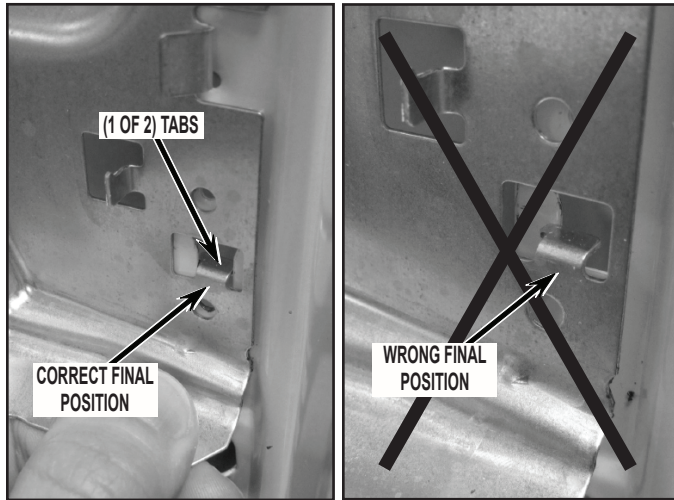

FIGURE 37
- When reattaching the upper front bracket, make sure the central control bracket front is above the upper front bracket, see *Figure 12B*. Insert and push down two (2) ear tabs on either side of bracket, *Figure 37*. Reattach five (5) screws as shown in *Figures 12A and 12B*.